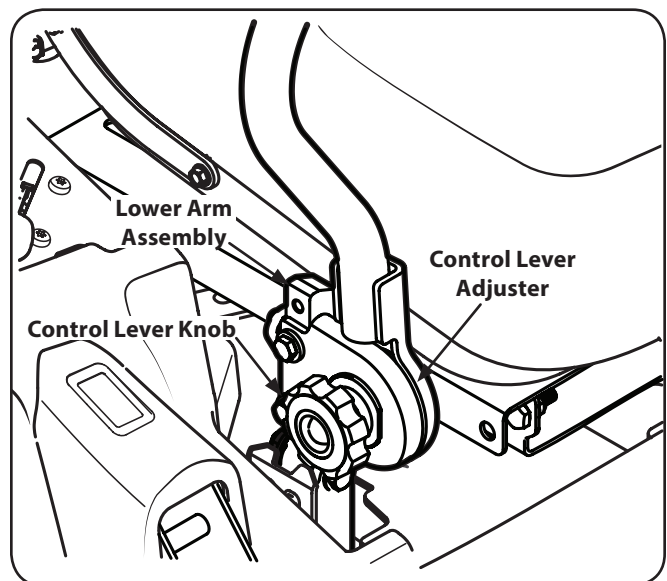

Figure 6-6
1. Loosen the control lever knobs on the side of the drive control levers. See Figure 6-6.
3. Secure in place by tightening the control lever knob. See Figure 6-6.